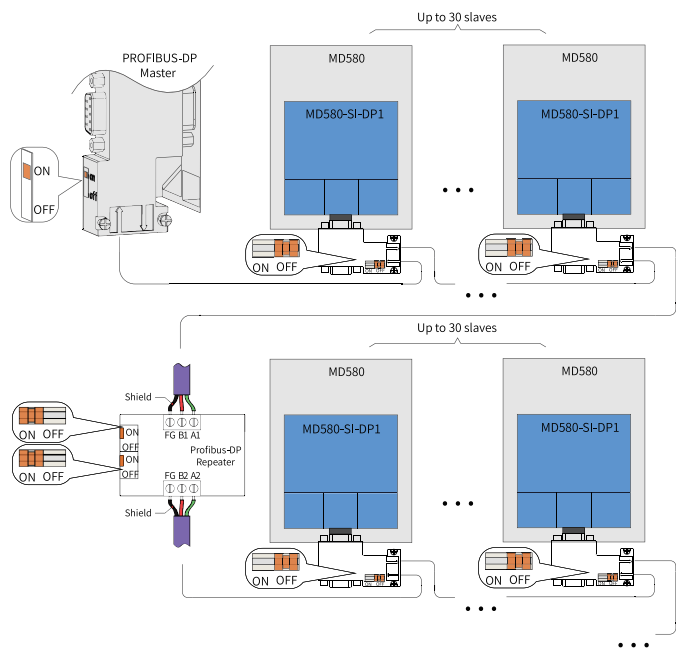

Figure 6-60 Multi-device system connection with a repeater
- For multi-device system connection with a repeater, connect termination resistors at the head and end, and connect the termination resistor of the repeater, as shown in *"Figure 6-60 Multi-device system connection with a repeater" on page 132.*